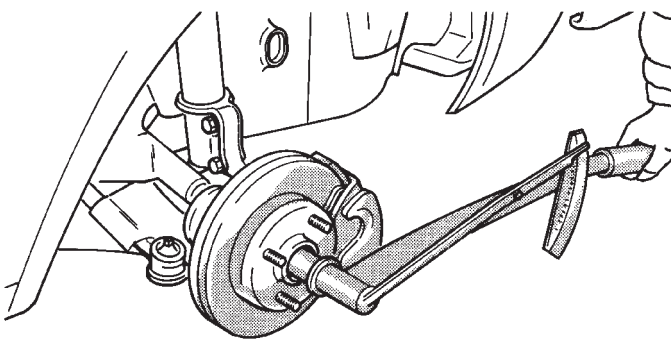

Fig. 16 Tighten Hub Nut
(2) With brakes applied, tighten hub nut to 245 N•m (180 ft. lbs.) torque (Fig. 16).